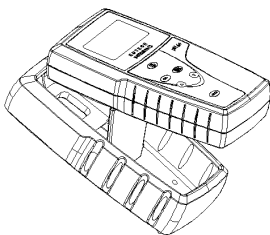

Figure 1
1. To remove meter from rubber armour, push out from the bottom edges of meter until it is completely out of boot. Ensure that your electrode cables are not connected. See **Figure 1**.